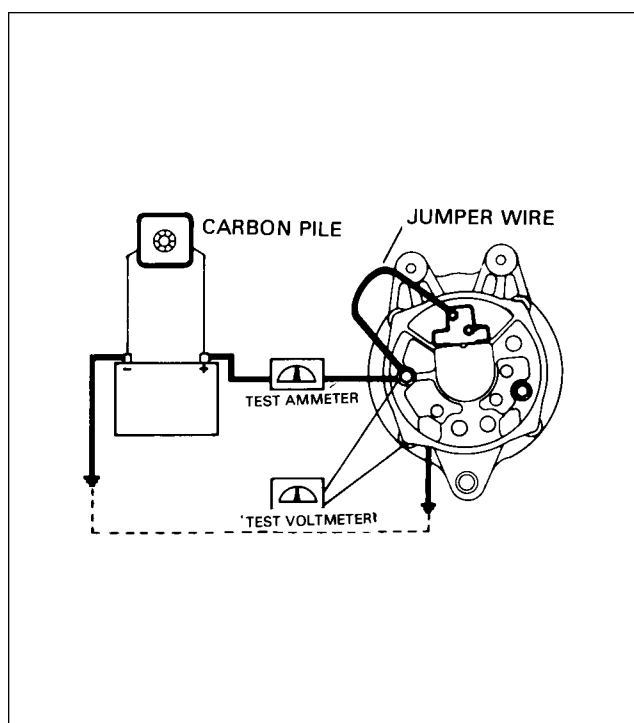

Figure 24-39. Testing Alternator
1. Wiring connections for bench testing the alternator are shown in Figure 24-39. Refer to the individual specification pages for output test figures. Adjust the carbon pile if necessary, to obtain the specified voltage.